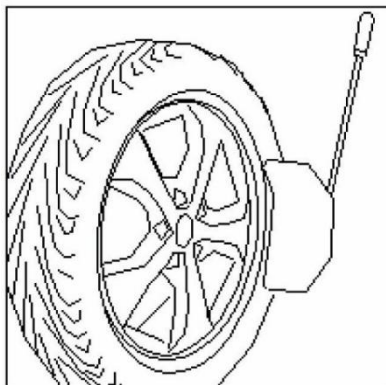

Fig. 4-3-2
- Press the pedal (2) to activate the bead lifter and release it when the blade has reached the end of its travel or as soon as the bead is lifted (see Fig. 4-3-2)